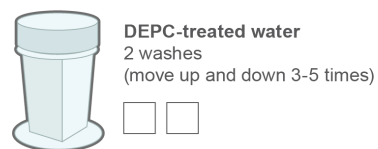

Figure 9: DEPC-treated water wash
13. Move slides up and down 3-5 times to wash. Transfer slides to a new jar of DEPC-treated water and **repeat wash** (Figure 9).